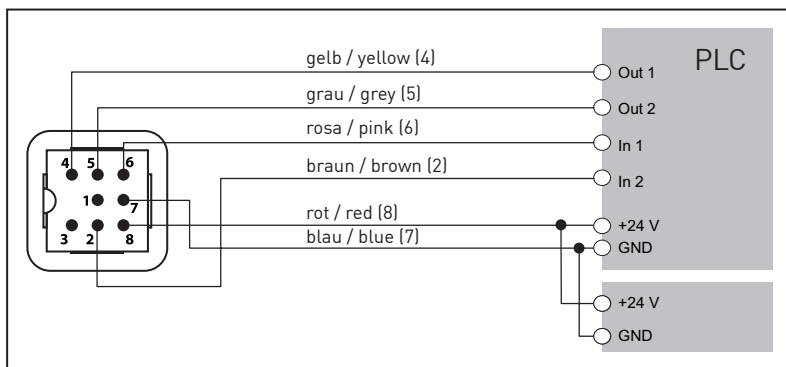

Fig. 10-4: Circuit diagram for direct connection to a PLC
- Connection to terminal “GND” is imperative for direct connection to a PLC (Fig. 10-4)!